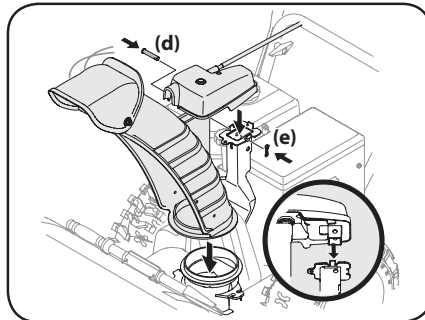

Figure 2-40
3. Place chute onto chute base and ensure chute control rod is positioned under handle panel. Secure chute control head to chute support bracket with clevis pin (d) and bow-tie cotter pin (e) removed in Step 1. See Figure 2-40.